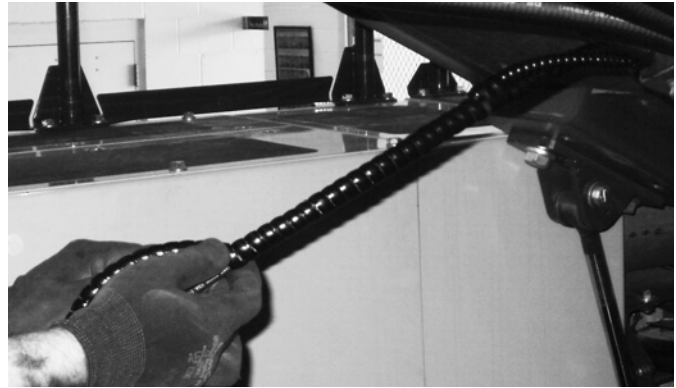

FIG. 60
4. Join it to the same path as the G3 pump power cable and use the heavy duty zip ties (included in the kit) to secure the proximity cable to the G3 pump cable. Wrap the proximity cable and G3 pump cable together to create a single cord (FIG. 60).